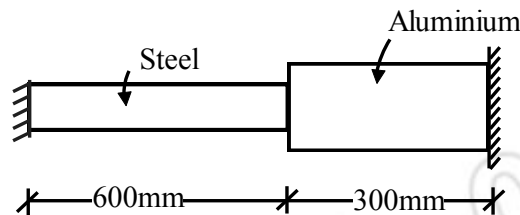

Fig. 1
- b) The composite bar consisting of steel and aluminium components shown in fig. 1.